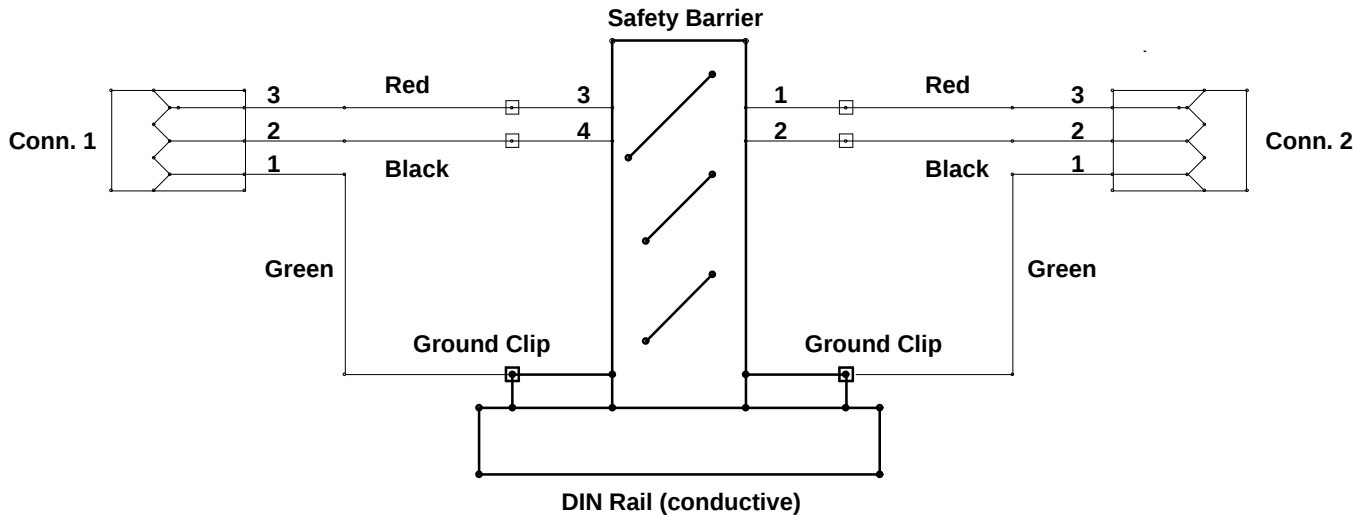

Fig. 1
(Refer to Fig. 1, page 2)
6. Connect the 5 ft. (1.52 m) cable (10) between the printer connector (A) and the printer barrier (30) connector labeled "2". See Fig. 1 and 2.
7. Connect the 45 ft. (13.72 m) cable (20) between the printer barrier (30) connector labeled "1" and the printer cable connector  (F) on the ProMix control (B).